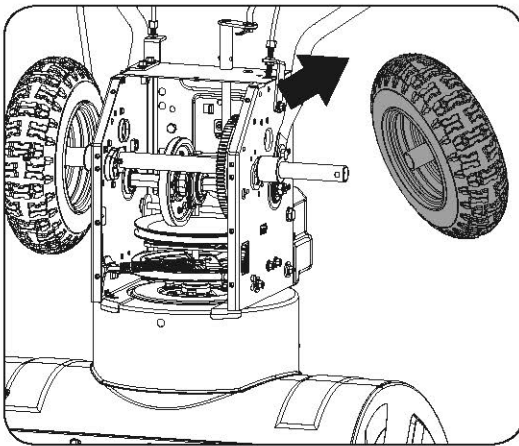

Figure 18a
4. Remove the right-hand wheel by removing the axle lock pin. (See **Figure 18a**)